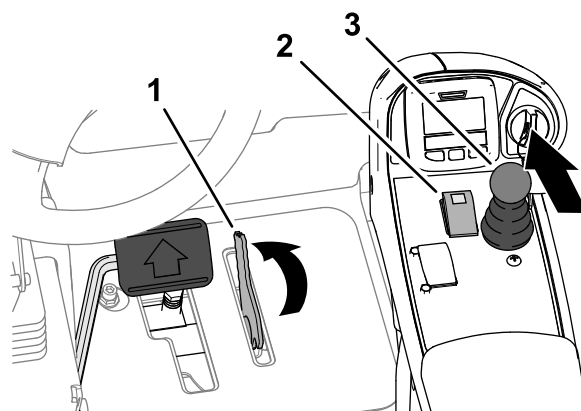

Figure 158
3. Rotate the lever for the mow-speed limiter forward to the Mow position (Figure 158).